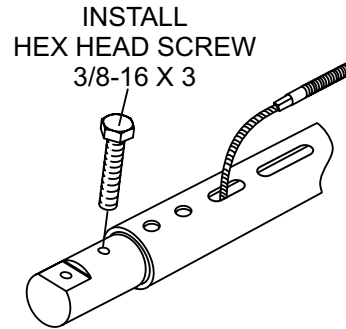

Figure 7. Hex Head Screw Installation
- Install Hex Head Screw (3/8-16 x 3") until snug as shown in Figure 7.